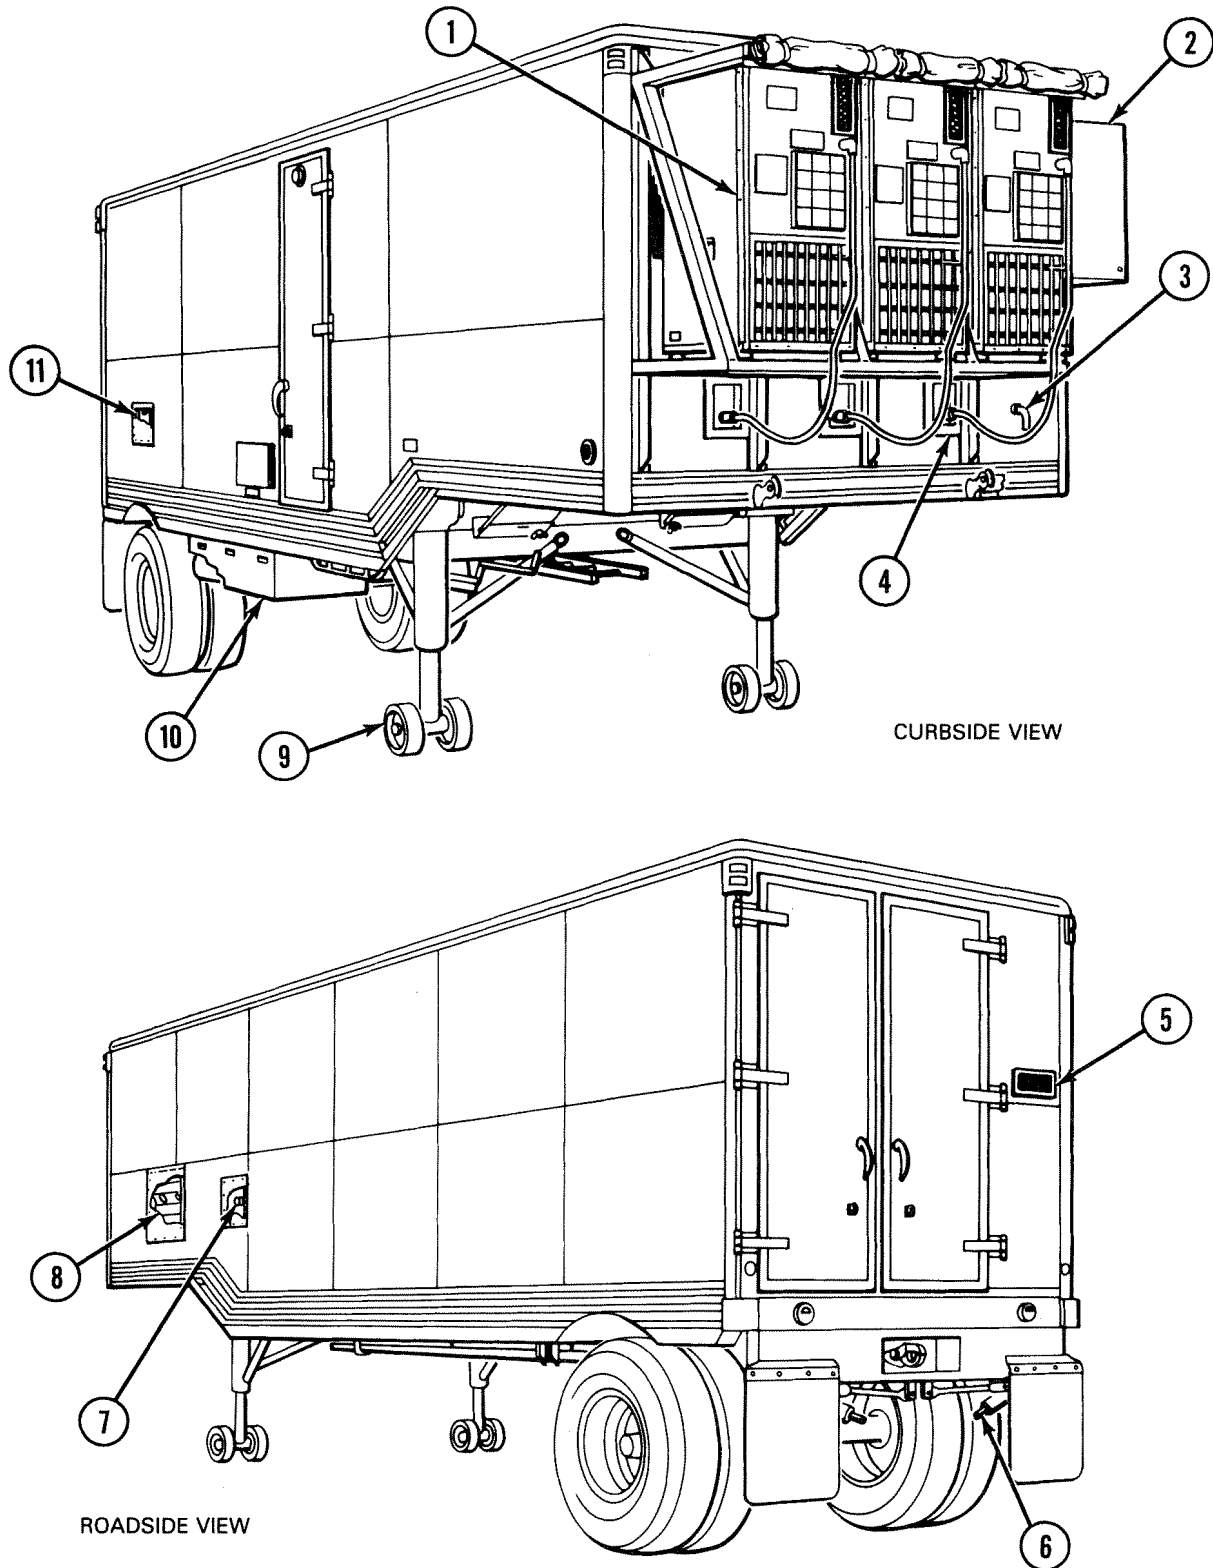

Figure 2-33. Electrical Repair Shop Major Exterior Features
a. Exterior Features. Figure 2-33 shows electrical repair shop major exterior features.